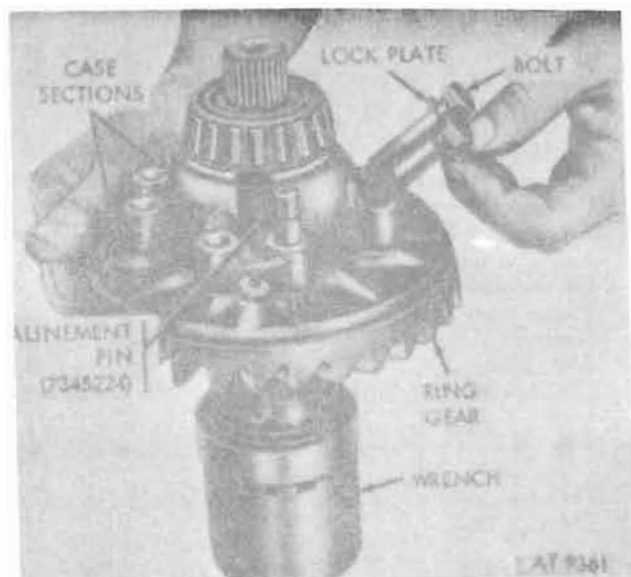

Figure 12-42. Using alignment pins (7345224) to assemble drive gear to differential case.
g. Assemble drive (ring) gear to case using alignment pins (7345224) (fig. 12-42).
i. With alignment pins (7345224) in place, position lock plates and start bolts into ring (fig. 12-42).